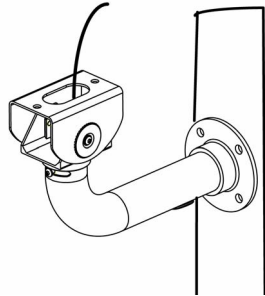
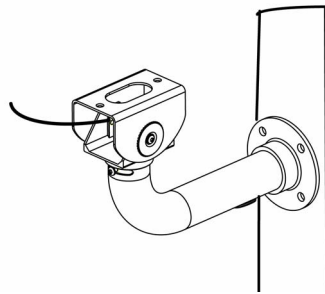

Fig. 14.1 Feeding the Wire using the Bottom NPT Fittings
Fig. 14.2 Feeding the Wire using the Rear NPT Fittings
2. Insert the coax and power lead wires from the wall through the supplied J-mount allowing enough slack to pull through the housing (see *Figure 14.1* on page 27 if using the bottom glands or see *Figure 14.2* on page 27 if using the rear glands).